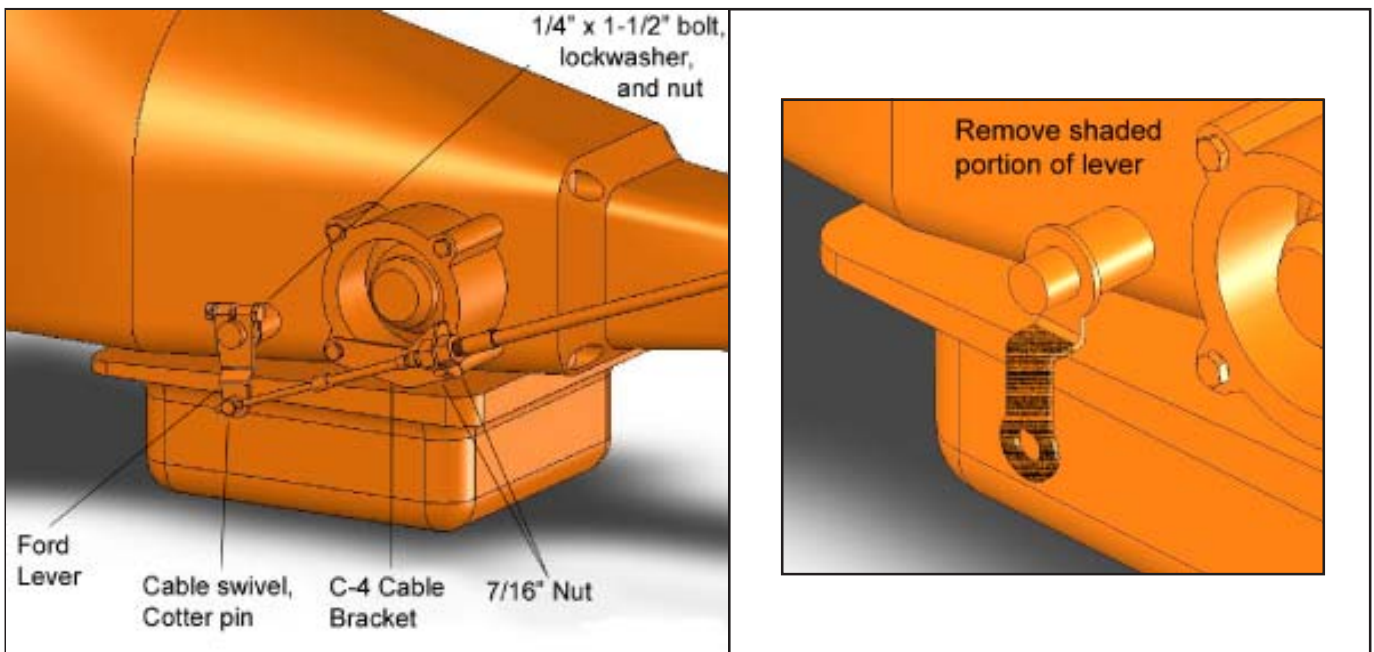

Figure 5
STEP 14. Install the **B&M** selector lever (See Figure 5 or 6). Note: The **B&M** lever must point downward for proper operation. If the stock shift lever on your transmission points down, you will have to remove the lower part of the stock arm by cutting it off to clear the **B&M** lever (See Figure 5). Install the **B&M** selector lever onto the shift shaft of the transmission. Align the **B&M** selector lever so when it points straight down it travels equal arcs in both directions from the center, then tighten the 1/4"-20 x 1 1/2" pinch bolt and the nut. The lever should travel smoothly from front to back with a positive
C-4, C-5: Remove the two lower bolts from the rear servo cover. Install the cable bracket in position (See Figure 5). Install the two servo cover bolts as removed and tighten to 12-13 lb. ft. Do not overtighten as this can distort the servo cover.